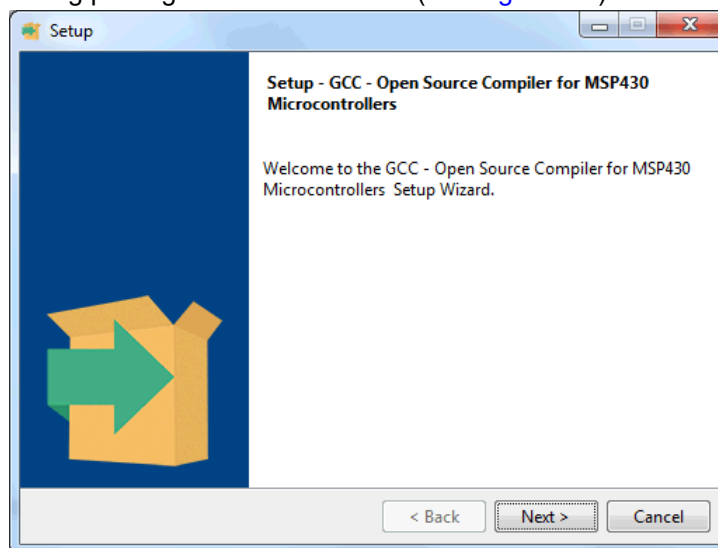

Figure 2-4. MSP430 GCC Stand-Alone Package Installer
1. Download the corresponding package installer and run it (see Figure 2-4).